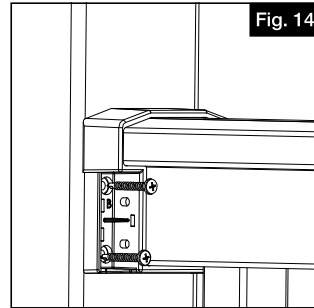

Fig. 14
- iii. Tighten screws until the bracket is snug with the post. We recommend a non-impact drill with a clutch setting to avoid over tightening (Fig. 14).